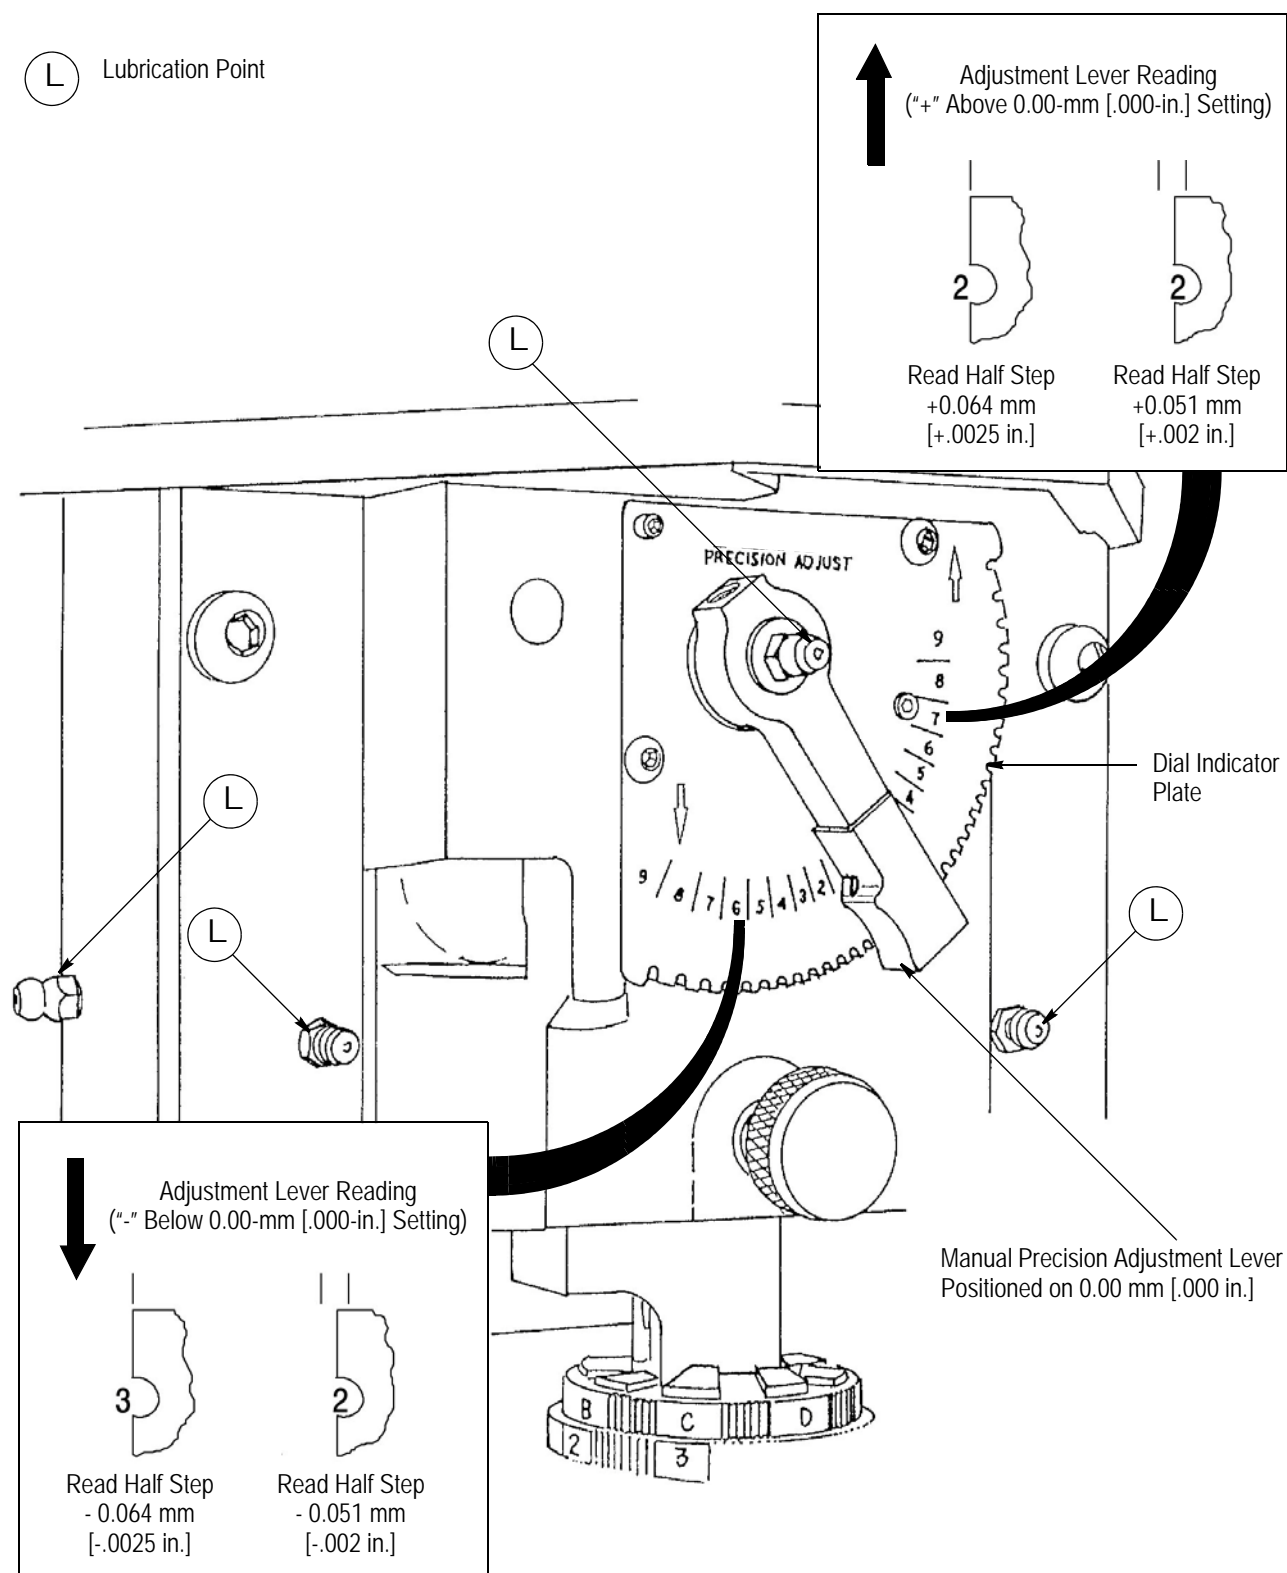

Figure 17
1. Adjust the manual precision adjustment lever to 0.00 mm [.000 in.] by pulling the lever away from the pivot pin. Lock the lever in place by releasing it. See Figure 17.